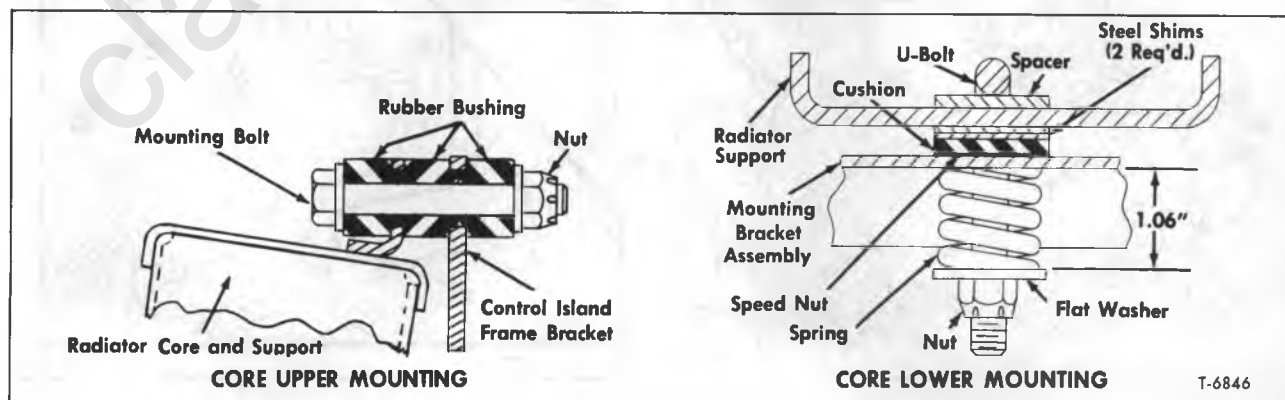

Figure 4—Radiator Mountings ("T" Models)
"T" MODELS (Fig. 4)
4. Assemble radiator upper mounts and complete assembly of lower mounts. When installing lower mount be sure to position shims and cushions as shown and to compress the mounting springs to dimension shown in figure 4.